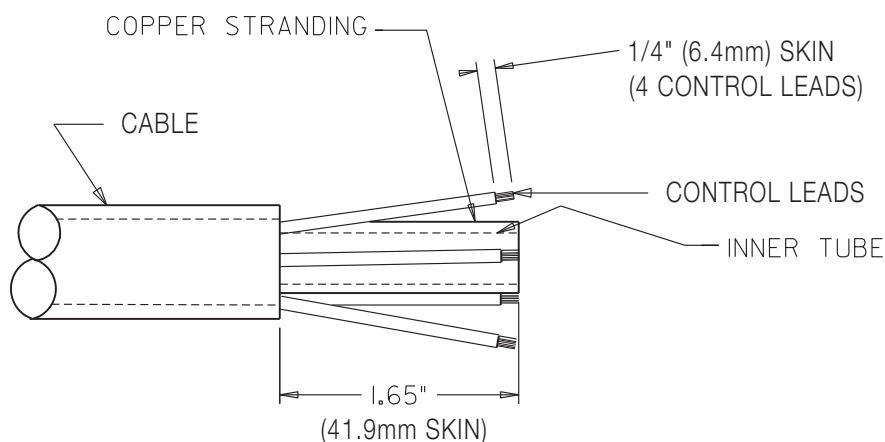

Figure E.3
Cut off damaged section of cable and strip off the outer jacket 1.65 inches back. Be careful not to cut the insulation on the control wires while stripping jacket. Strip all four control leads .25 inch back and crimp a new S19492-2 terminal to both the black lead and the white lead. Remove the leads connected to the red and blue control leads from the cutoff cable and solder these leads to the blue and red leads of the newly trimmed cable. Insulate connections with heat shrink tubing or tape. (See Figure E.3).
- g) Cut off the damaged section of cable and strip off the outer jacket as shown in Figure E.3. Be careful not to cut the insulation on the control wires while stripping jacket. Strip all four control leads 1/4 inch (9.5 mm) from the end.